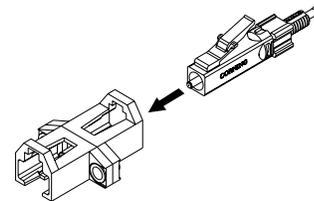

Figure 4-6
**4.3-5** If you are using the CTS system, remove the front dust cap from the connector and plug the connector into either side of the LC CTS coupler (Figure 4-6).